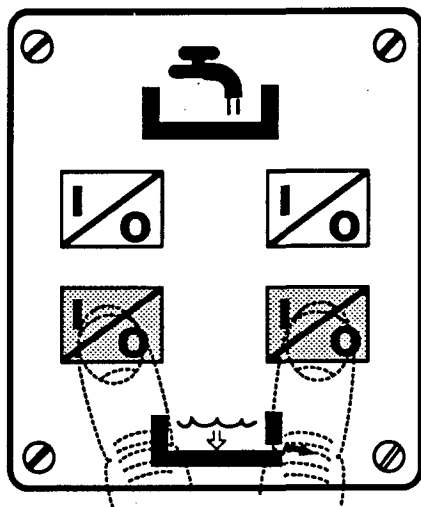

figure 11
3. Press both CIRCULATION PUMP SWITCHES (DEVELOPER and FIXER) on the SERVICE KEYBOARD while simultaneously power on the AUTOMIXER II Plus (see figure 11).